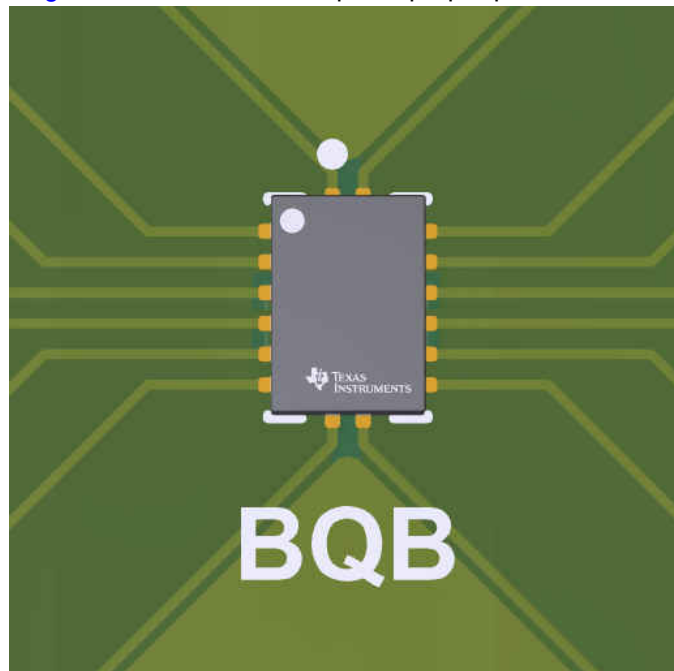

Figure 2-2. BQB Placement Example
| Figure 2-2. BQB Placement Example..... | 4 |
2. Solder down the device. Figure 2-2 shows an example of proper placement.